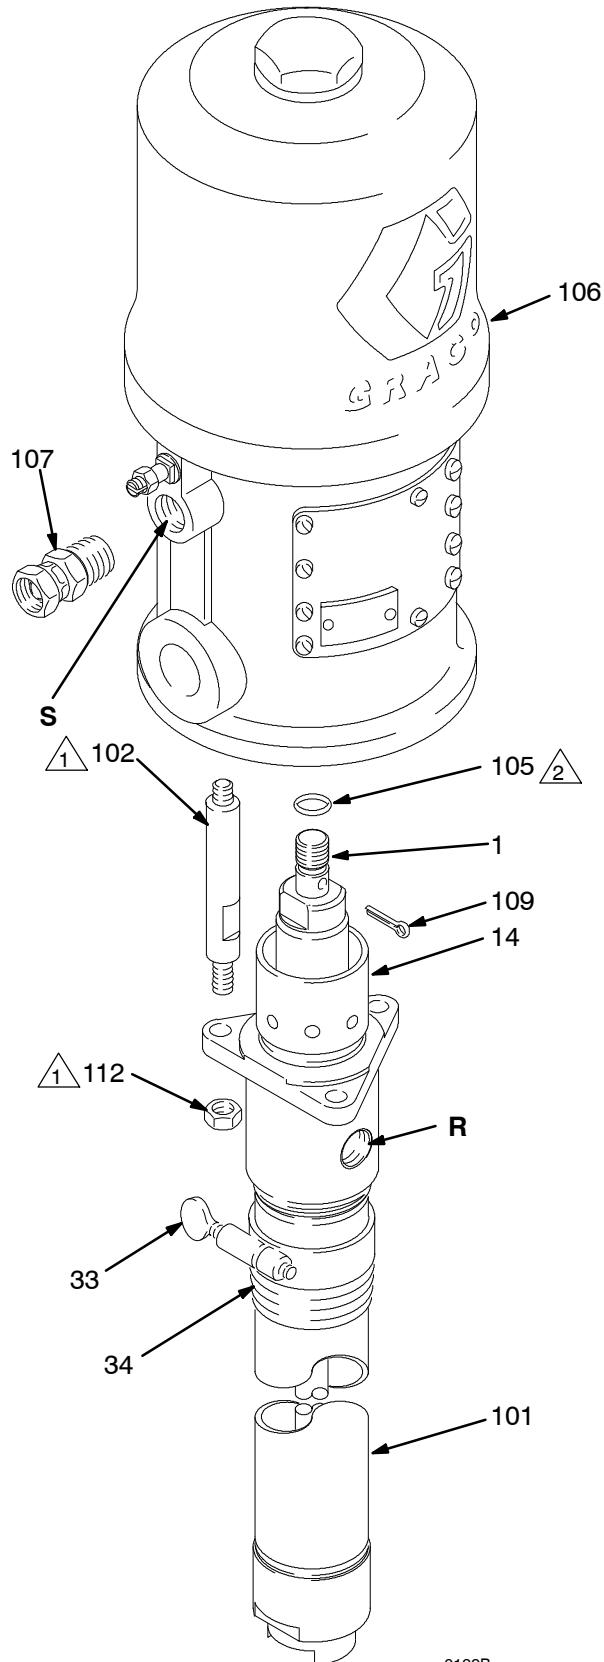

Fig. 3
2. Disconnect the air and fluid hoses. Remove the pump from its mounting. Note the relative position of the pump's fluid outlet (R) to the air motor's air inlet (S).
3. Unscrew the tie rod locknuts (112) from the tie rods (102). Remove the cotter pin (109). Unscrew the displacement rod (1) from the air motor (106). Carefully pull the displacement pump (101) away from the air motor (106). Inspect the o-ring (105). See Fig. 3.
1. Lubricate the o-ring (105) and check that it is in place on the displacement rod (1). Orient the pump's fluid outlet (R) to the air motor's air inlet (S) as was noted in step 2 under **Disconnecting the Displacement Pump**. Position the displacement pump (101) on the tie rods (102). Screw the locknuts (112) onto the tie rods (102) loosely. See Fig. 3.
2. Screw the displacement rod (1) into the shaft of the air motor (106) until the pin holes in the rod and shaft align. Install the cotter pin (109).
3. Mount the pump and reconnect all hoses. Reconnect the ground wire if it was disconnected during repair. Tighten the packing nut/wet-cup (14) so it is just snug – no tighter. Fill the wet-cup with Graco Throat Seal Liquid or compatible solvent.
4. Tighten the tie rod locknuts (112) evenly, and torque as shown in Fig. 3.
6. Check for fluid leakage at the packing nut/wet-cup (14). **Relieve the pressure** before tightening the packing nut/wet-cup.